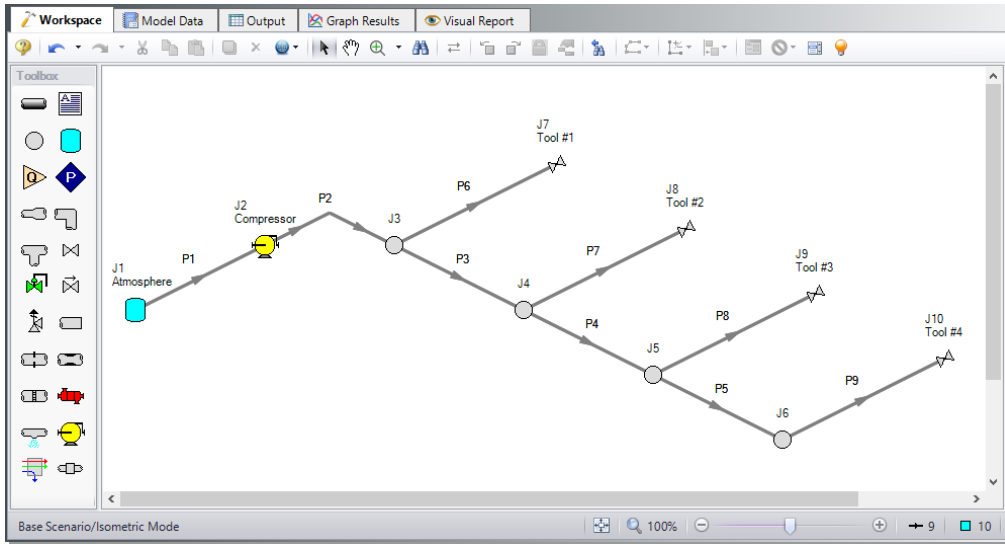

Figure 3.20 Compressed air system with isometric grid not shown
8. Draw pipes P3-9, as shown in Figure 3.20.